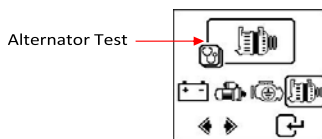

Fig.42
- From the main MENU (Fig.42), select  by scrolling left using ► key.
- Pressing the  key will exit and return back to the main menu screen (Fig.42)